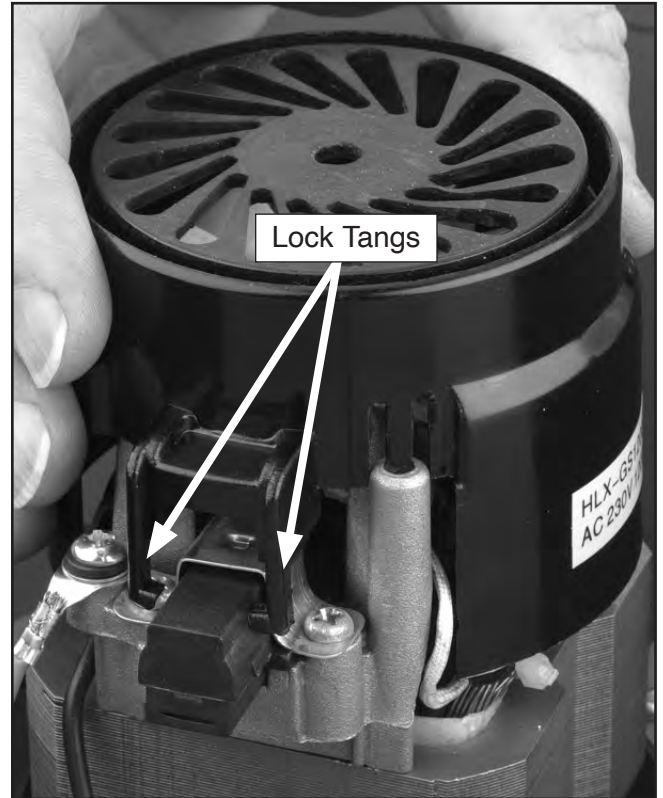

Figure 43. Fan cover installation.
14. Place the fan cover back onto the motor so the lock tangs lock onto the brush housings, as shown in **Figure 43**.